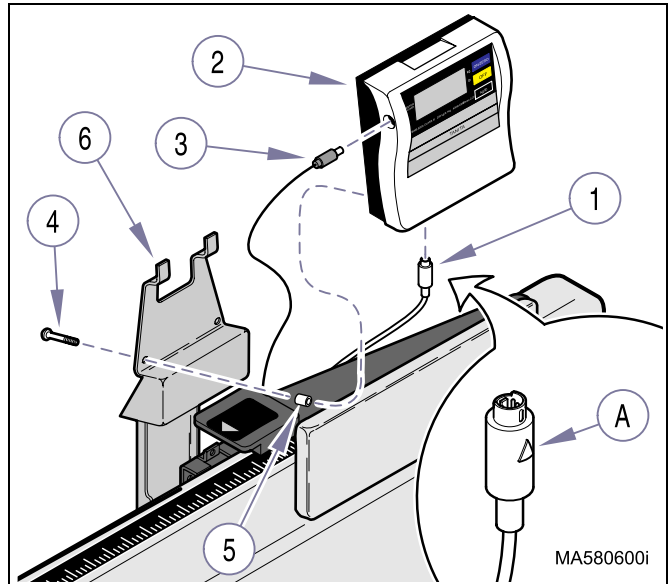

Figure 4-7. Digital Display Removal / Installation
- (1) Disconnect display connector (1, Figure 4-7) from digital display (2).